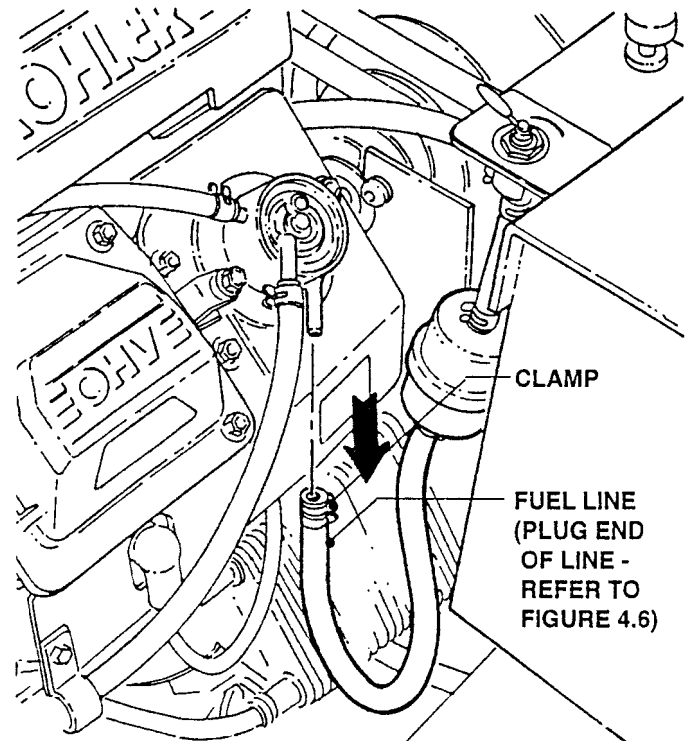

FIGURE 4.5
F. Squeeze fuel line clamp and remove fuel line from engine. Plug open end of line. See Figure 4.5.